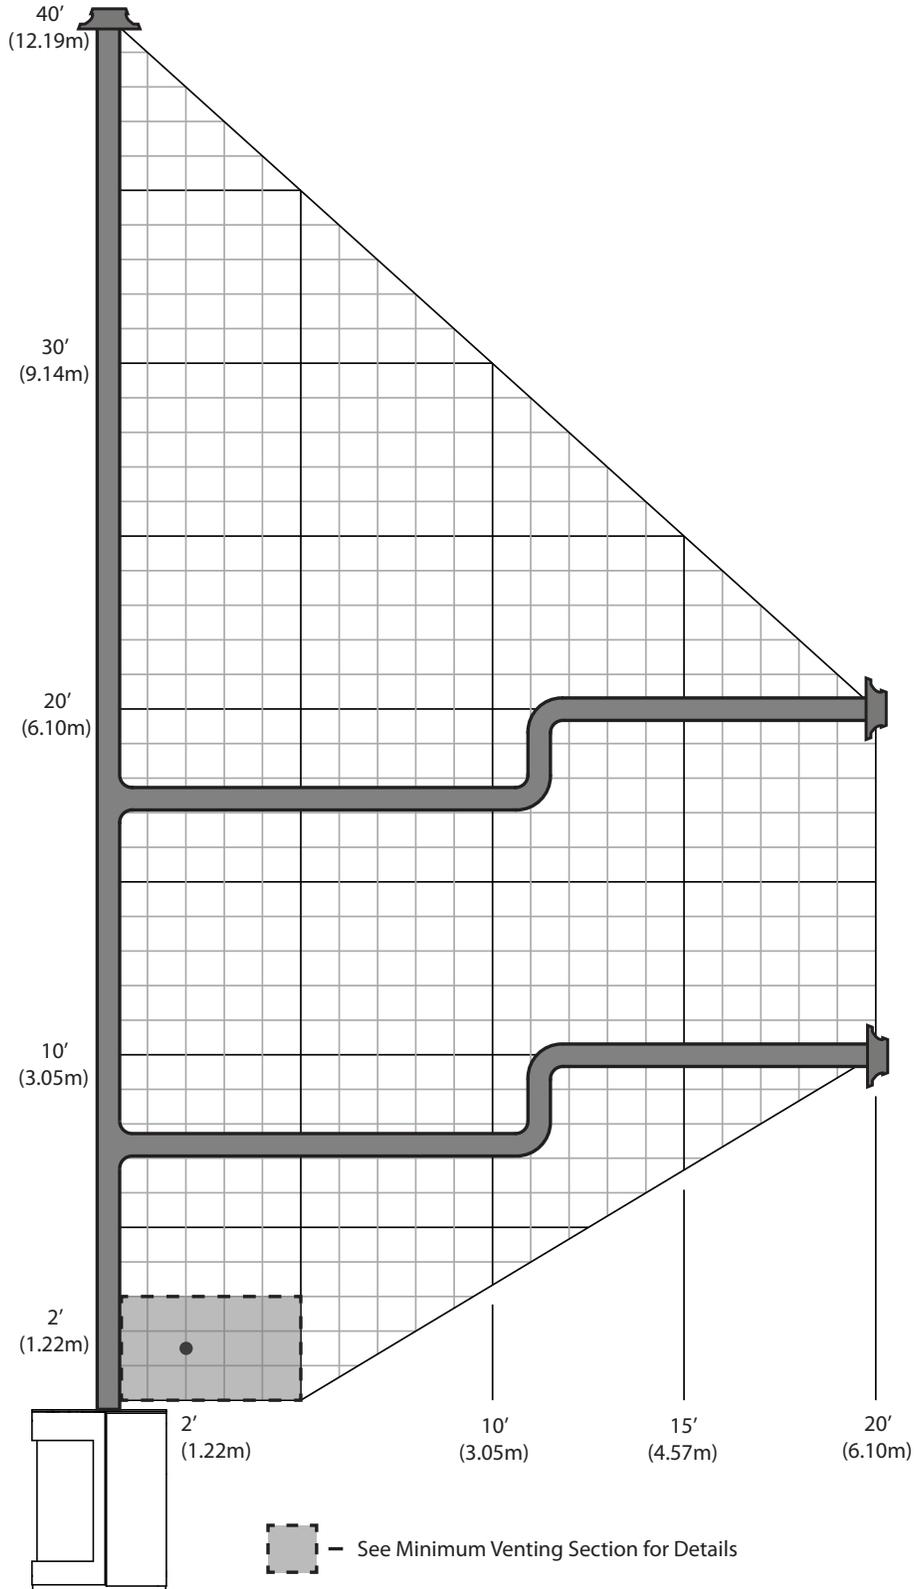

Figure 50: Top Vent Configuration Diagram - LP
The following charts show the range of venting options available for top vent configurations using either vertical or horizontal terminations in conjunction with 0 - 3 90° elbows in the vertical plane. Having the fewest number of elbows is ideal as they restrict air flow. The total length of horizontal vent pipe can not exceed 20ft (6.1m) and the total vertical length can not exceed 40ft (12.2m). Any combination of rise and run can be used as long as it lays within the shaded areas of the following charts. A total of three (3) 90° elbows or six (6) 45° elbows can be used as shown in Figure 49 & Figure 50. In addition to what is shown, if a 90° elbow is used in the horizontal plane, 3 ft (91.4cm) must be subtracted from the allowable horizontal run (for each 45° elbow, 1.5ft (45.7cm) must be subtracted).